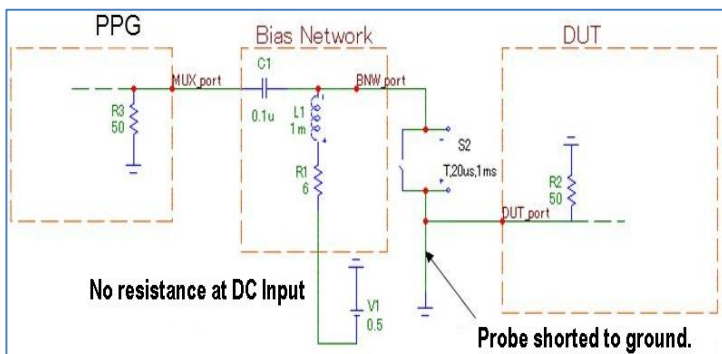
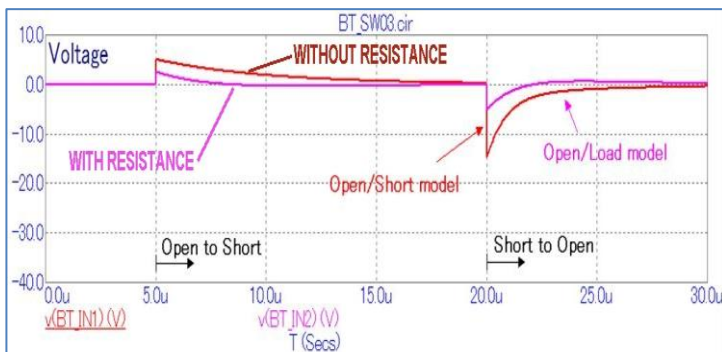

Figure 2. Model with no resistance at Bias-T DC In
Figure 4. Simulated voltage at PPG output
Model Elements (Figures 2 & 3):
Figures 2 and 3 show the modeled circuit with (2) and without (3) an external resistor at the Bias-T's **DC In** port. The simulated behavior of these circuits provided in Figures 4 and 5 show a significant difference between the magnitude of transients **with resistance** and **without resistance** applied at the Bias-T's **DC In** port. Similar observations were made for both voltage and current transients. Without resistance, the PPG is exposed to a potentially damaging voltage transient exceeding -10V. Simulations show that the magnitudes of the voltage and current transients are reduced by applying external series resistance to the Bias-T's **DC In** port, even when DC supply has been increased to compensate for the drop across the resistor.